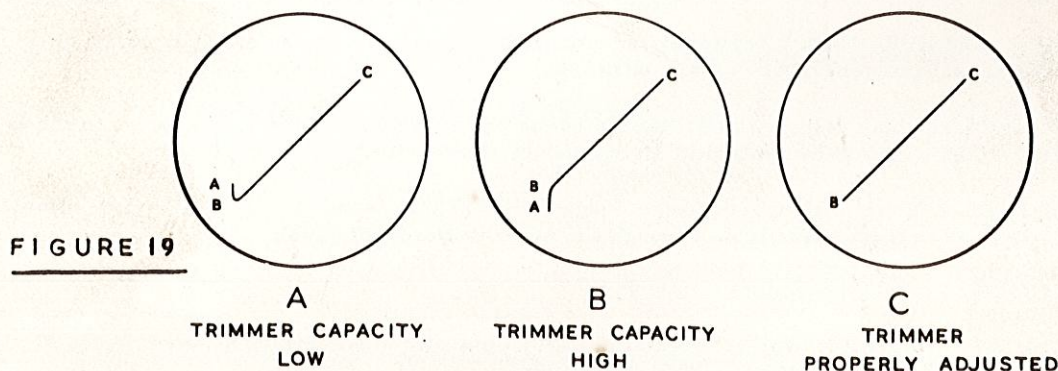

FIGURE 19
5. If you are unable to obtain straight diagonal lines when adjusting the vertical trimmers, please refer to Figure 19 on Page 39 of your IO-12U manual. The patterns shown there present a perfectly straight line between points B and C on the traces. Some constructors have raised questions on this point, stating that they cannot obtain a straight line between B and C. This is perfectly normal. The indication which is significant is that portion of trace between A and B. The intention of the adjustment is to reduce this portion of the trace to a point at the lower end of the trace, thus indicating neither overshoot or slow rise time on the sharp wave-front of the saw-tooth generated by the time base generator. If the remaining portion of the line is not quite straight, a readjustment of the sweep frequency will probably locate a point where the effect is changed radically. This variation is due to minor phase shift relationships in the amplifier circuits, not to defective or improper compensation.